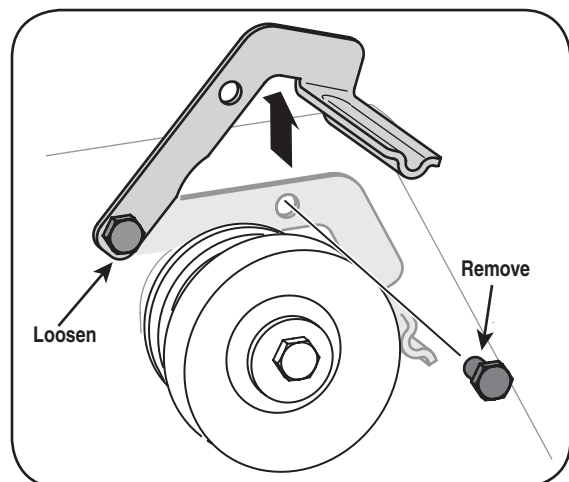

Figure 6-5
3. a. Loosen the bolt shown in Figure 6-5 securing the belt keeper bracket and remove the other bolt.
- b. Push the belt keeper and bracket up off the engine pulley. See Figure 6-5.